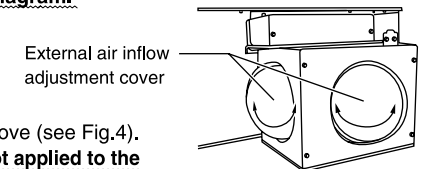

Fig.4
- (5) Open the external air inflow hole (150mm diameter) connecting the external air ducting (see Fig.4).
Cut the joiners at left and right of the external air inflow hole with a pair of cutters and rotate the cover to open (see Fig.4).
As with intake adjustment, cut the joiners at left and right and rotate the cover repeatedly to remove (see Fig.4).